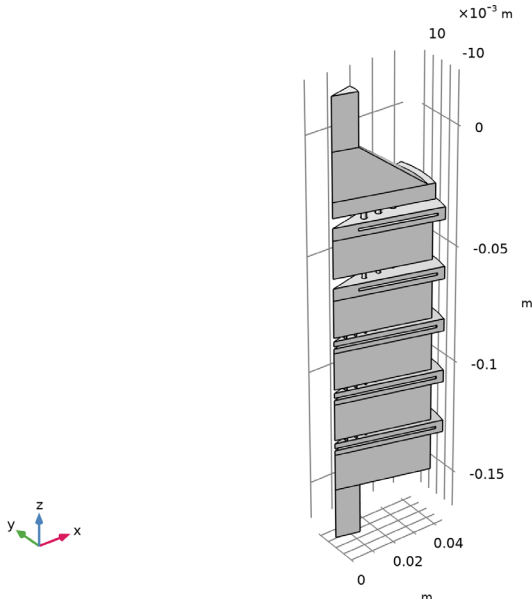

Figure 1: Model geometry of a cascade impactor device.
The aerosol containing spherical particles of density  $2200 \text{ kg/m}^3$  and sizes ranging from  $1 \text{ }\mu\text{m}$  to  $5 \text{ }\mu\text{m}$  enters the inlet at the flow rate of  $3 \text{ l/min}$ . The **Gravity** feature is used to apply gravitational force. The geometry is axially symmetrical so only a sector of geometry of  $30^\circ$  is built as shown in Figure 1 and the **Symmetry** feature is used which highly reduces the computational time. Drag and lift forces are applied in entire domain using the **Drag Force** and the **Lift Force** features.
- 3 In the **Geometry** toolbar, click  **Build All**. The geometry should look like Figure 1.